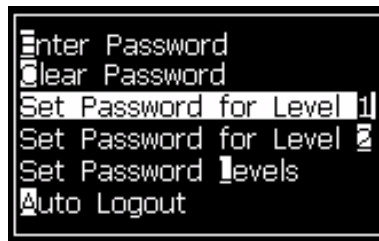
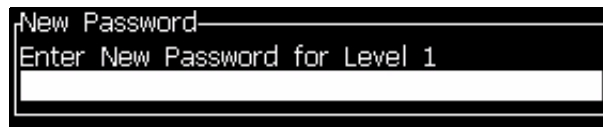

Figure 4-4: Set Password Level
Figure 4-5: New Password
- 1 Press *Alt + w* and select *Set Password for level 1* or *Set Password for level 2* from the *Password* menu (see Figure 4-4). The *New Password* dialog box appears (see Figure 4-5).